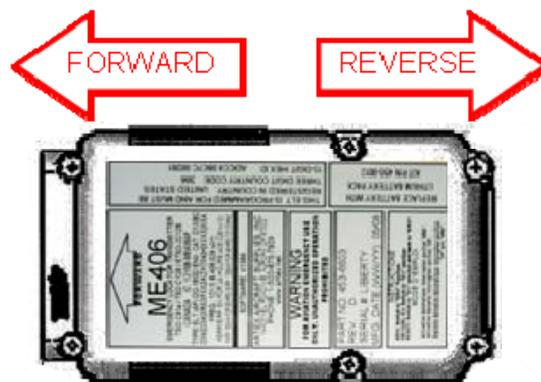

Figure 25-33 G-Switch Test Motion
4. With the control switch in the ARM position rapidly move the ELT forward then reverse as shown in Figure 25-33 and verify LED status lamp is flashing.